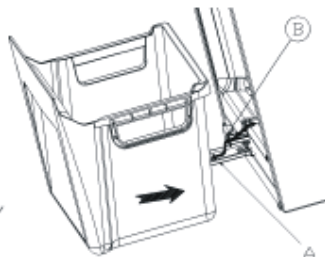

Figure -3-
3- Place the water drain cover (A) beneath the drain plug (B) .(figure-3)